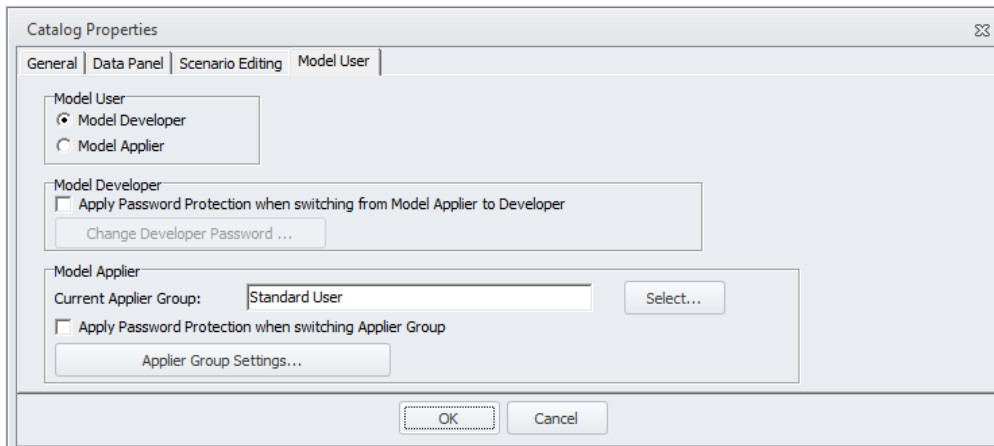

Figure 46 How to set the Model Applier to Standard User mode
- In the “Catalog Properties” window, select the “Model User” tab (see Figure 46)